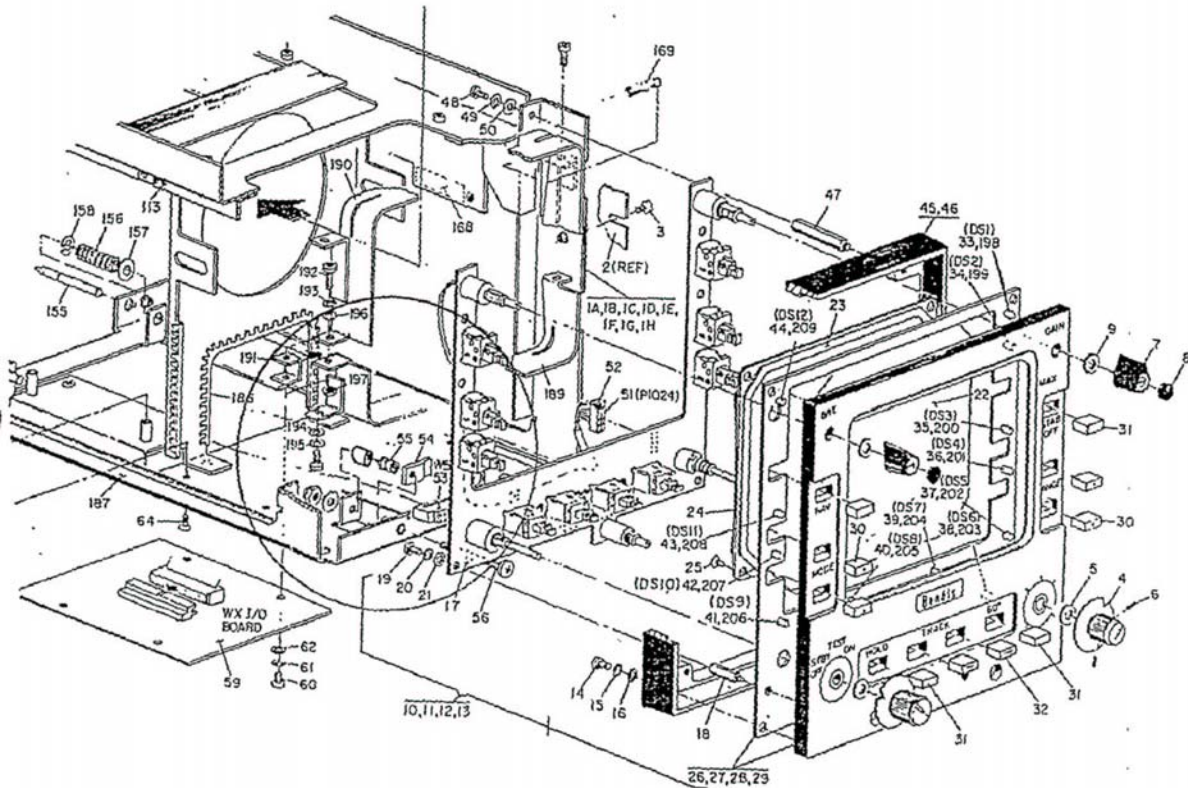
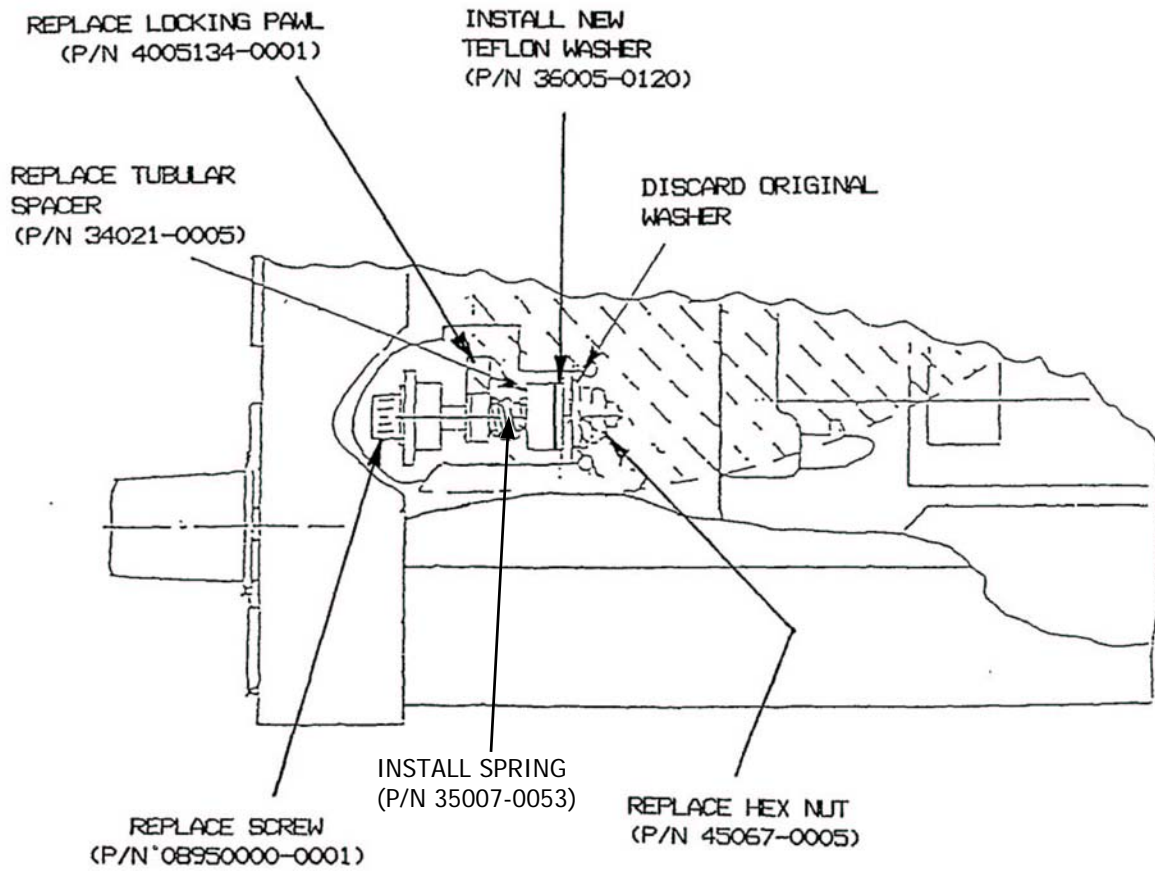

Figure 1. Locking Pawl Location
Figure 2. Locking Pawl Modification Detail
- (1) Remove the dust cover (2) and front panel assembly (10).
- (2) Refer to Figure 1 of this Service Bulletin for location of locking pawl (54) and associated parts.
- (3) Remove and discard two springs, two hex nuts, two washers, two spacers, two screws, and two locking pawls.
- (4) Install two locking pawls (P/N 4005134-0001), two springs (P/N 35007-0053), two special screws (P/N 08950000-0001), two tubular spacers (P/N 34021-0005), two Teflon washers (P/N 36005-0120), and two hex nuts (P/N 45067-0005) onto the two locking pawl assemblies as shown in Figure 2 of this Service Bulletin.